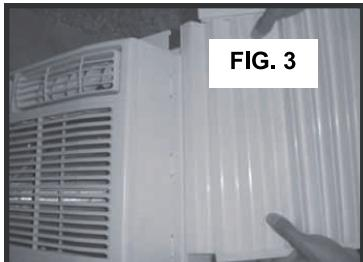

FIG. 3
4. Slide the free end of the accordion panel into the side panel of the air conditioner (See FIG. 3). Do this for each side.